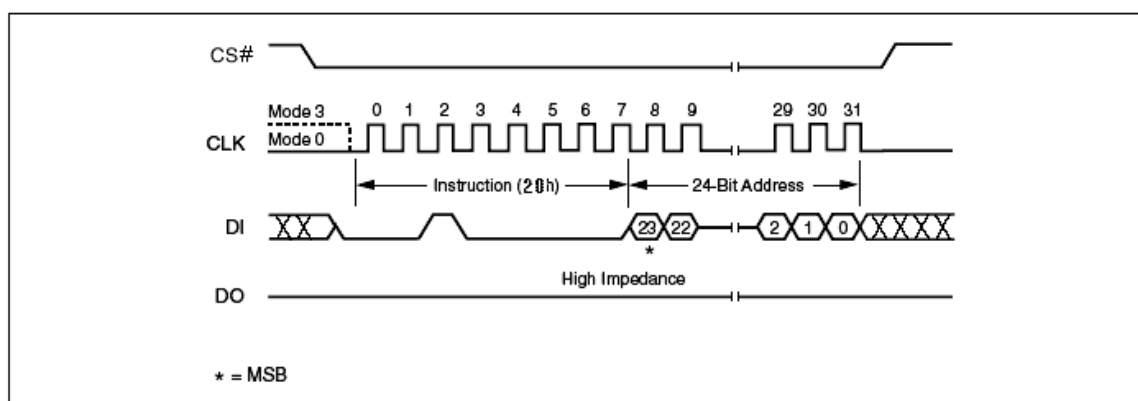

Figure 25. Sector Erase Instruction Sequence Diagram
The instruction sequence is shown in Figure 25. Chip Select (CS#) must be driven High after the eighth bit of the last address byte has been latched in, otherwise the Sector Erase (SE) instruction is not executed. As soon as Chip Select (CS#) is driven High, the self-timed Sector Erase cycle (whose duration is t_{SE}) is initiated. While the Sector Erase cycle is in progress, the Status Register may be read to check the value of the Write In Progress (WIP) bit. The Write In Progress (WIP) bit is 1 during the self-timed Sector Erase cycle, and is 0 when it is completed. At some unspecified time before the cycle is completed, the Write Enable Latch (WEL) bit is reset.